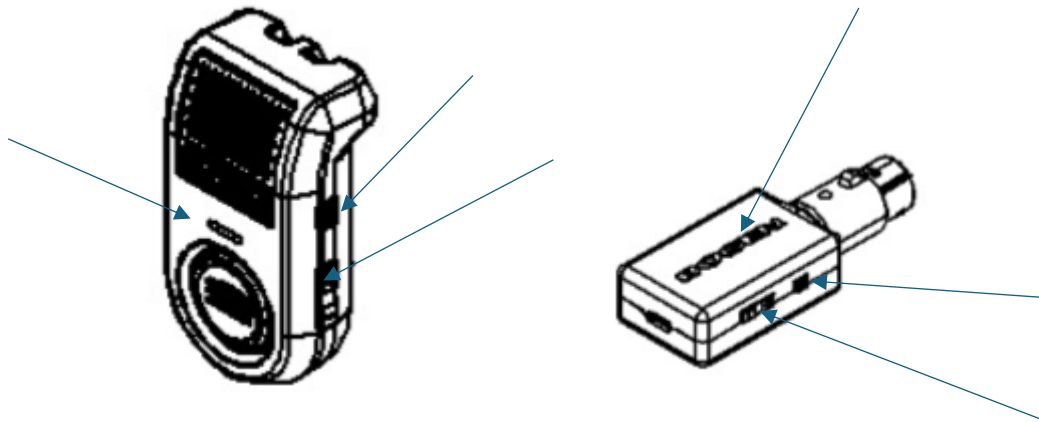

Figure 8: Microphone power button/power LED(s) / Volume Up/Down
6. Next step is to power the BT microphones one at a time (See Figure 8) and once the microphone's power LED is illuminated, to bring the microphone within 3 centimeters / 1.5" of the NQ-SERPAIR NFC pairing point. Upon hearing a "Beep" and seeing a "Green" LED from the NQ-SERPAIR NFC wall plate, these indicate successful pairing. (probably need a troubleshooting guide).